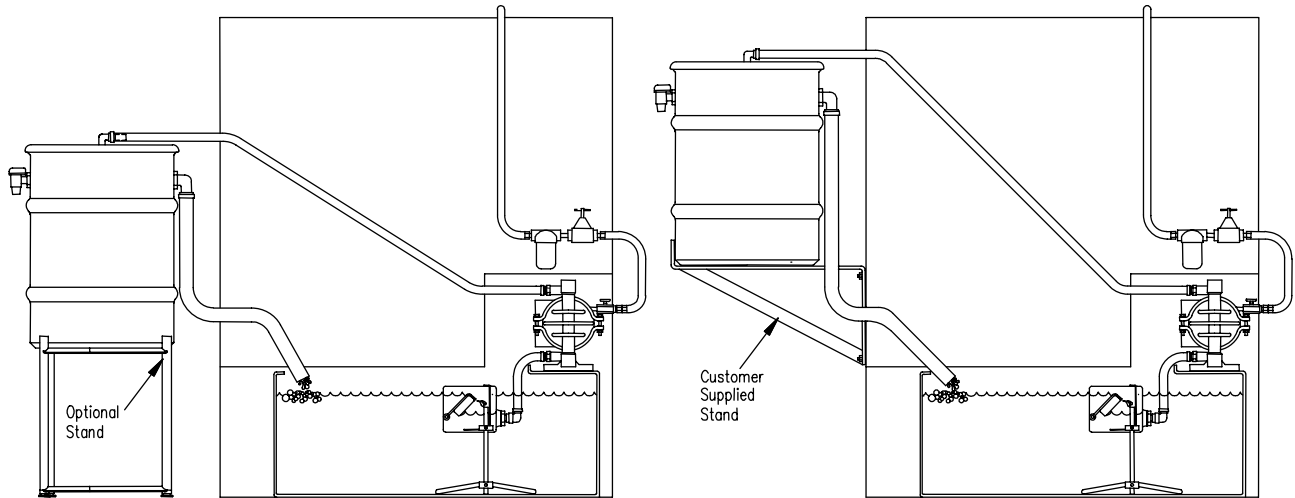

Figure 3
1. Mount the reservoir on or near the machine so the coolant level in the reservoir is above the coolant level in the machine sump. The reservoir tank can be mounted on the machine itself or on the optional stand (see Fig. 3). Mount the reservoir tank as close to the coolant sump as possible to minimize the distance the coolant must be pumped. Position the reservoir tank to allow easy access to the oil drain faucet. Make sure the tank is level.